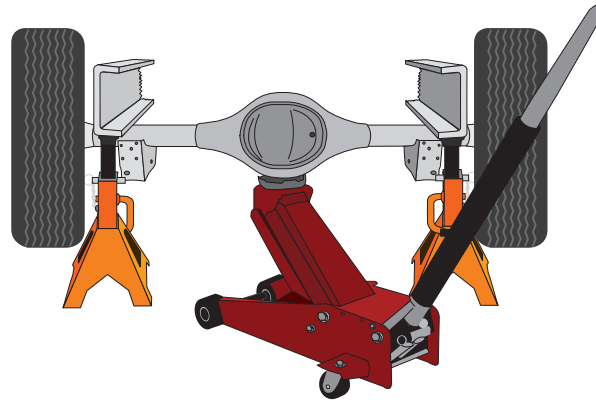

fig. 3
1. Raise the vehicle, support the frame with jack stands and remove the wheels. Drop the axle to make room for the air spring assemblies to be put into position between the frame and axle (Fig. 3).